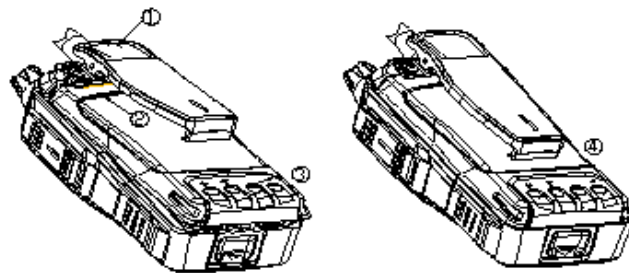

Fig. 18
Press ① to bounce the belt clip; align the two bulges on the battery top with the corresponding slots on the aluminum shell, and insert the battery into the aluminum shell in the direction as ② shows. Press the battery bottom as ③ shows to completely bounce the latch, and the battery is attached until the battery is hooked as ④ shows (see Fig. 18).